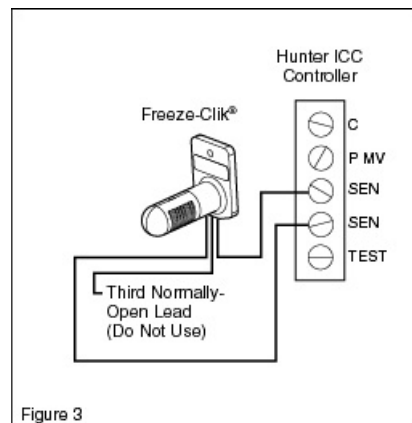

Figure 3
3. Connect one wire to the terminal labeled "SEN" and the other wire to the other "SEN" terminal (See Figure 3).
- [3] http://www.hunterindustries.com/sites/default/files/ts_freezeclik_fig3.gif